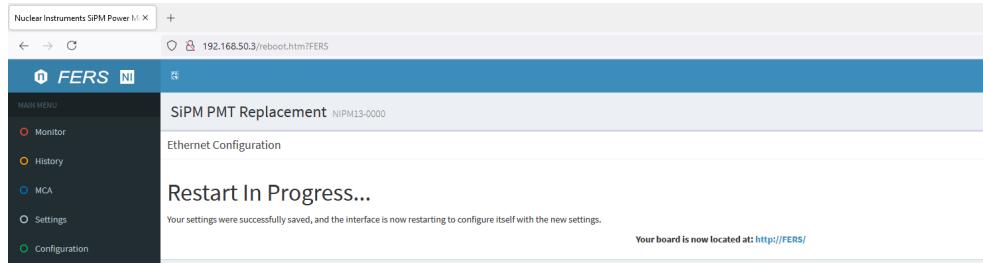

Fig. 3.18: Displayed message once the IP address of the board has been correctly changed.
4. Press on the Save and Restart button in the bottom part of the Tab, a message like that shown in Fig. 3.18 will be displayed. The A5202/DT5202 board has been assigned with the selected IP address.